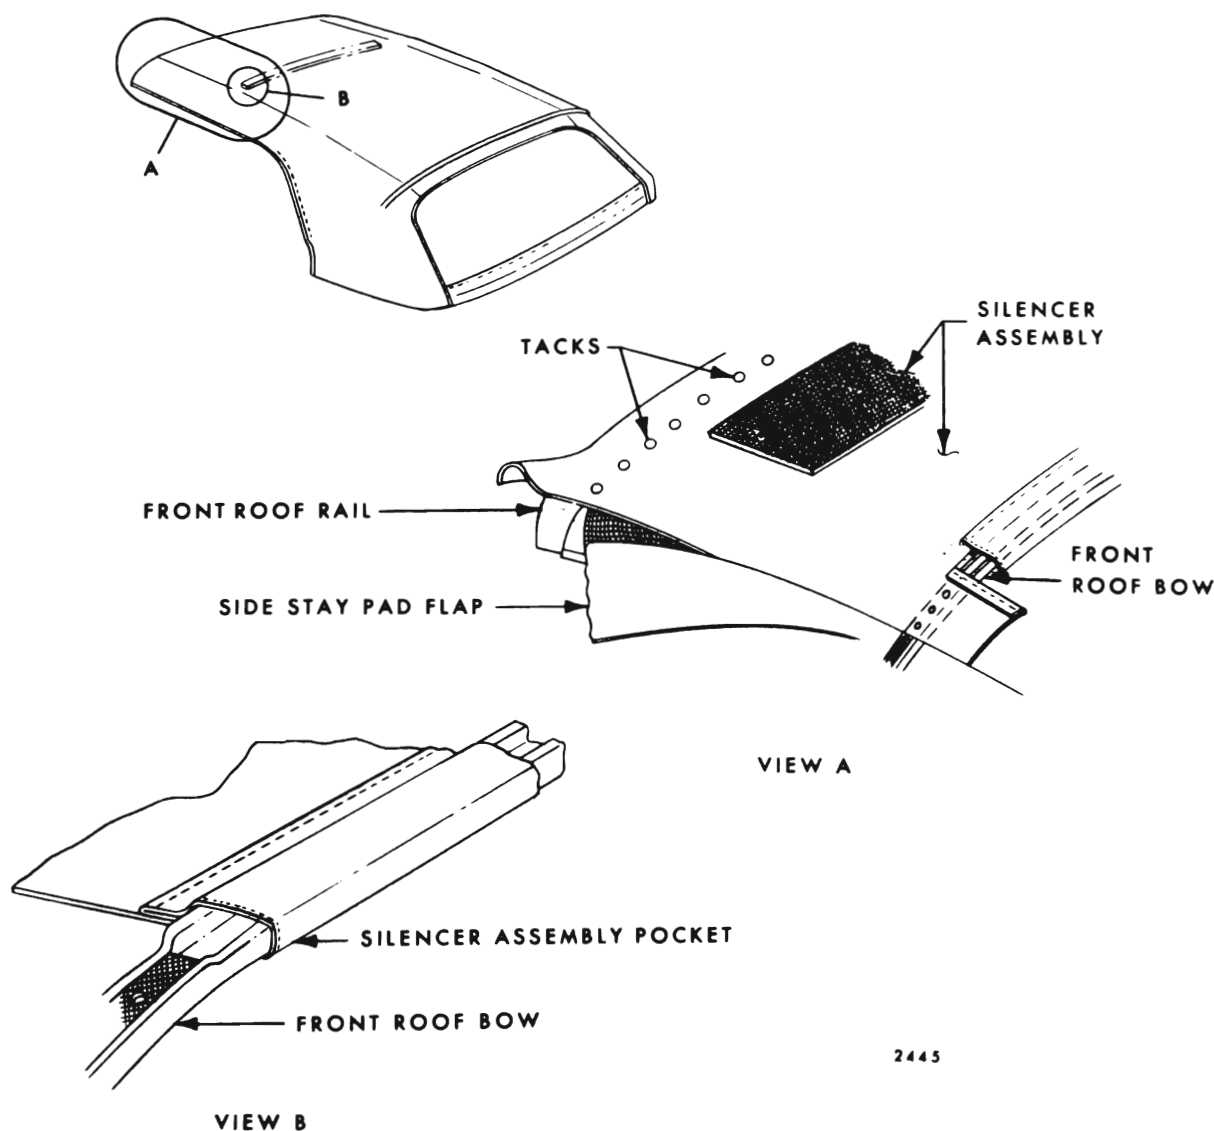

Fig. 13-58 - Folding Top Silencer Assembly
1. With deadener pad on top side of assembly, slip pocket on assembly over front roof bow. (View "B", Fig. 13-58)
5. Tack outboard ends of assembly to front roof rail (View "A" Fig. 13-58).